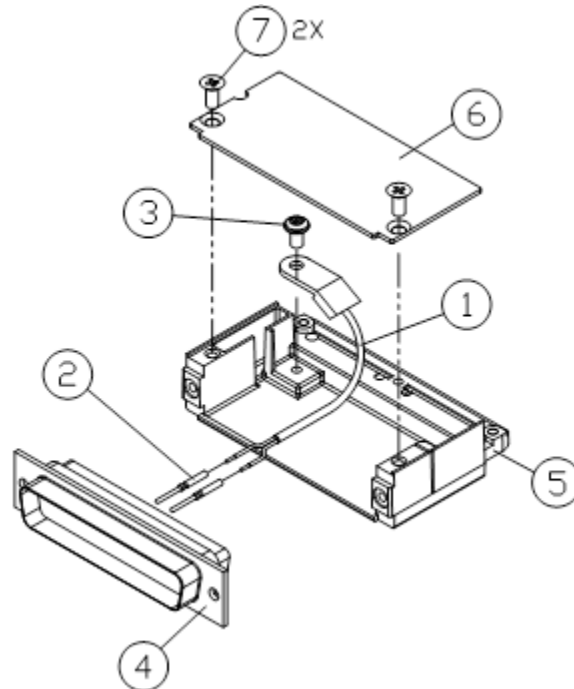

Figure 5-3. GEA Backshell Thermocouple
- d) Remove screws, item 7, and cover, item 6, from the backshell, item 5.
- a) Crimp pins, item 2, onto each of the thermocouple wires, item 1. Ensure that pre-stripped wire length is 1/8" before crimping.
- b) Insert newly crimped pins and wires into the appropriate connector housing location, item 4, as specified by the Kodiak Wiring Diagram.
- c) Place thermocouple body, item 1, onto the backshell boss, item 5. Place the thermocouple as shown in Figure 5-3 so the wires exit towards the bottom of the backshell.
- d) Place thermocouple body, item 1, onto the backshell boss, item 5. Place the thermocouple as shown in Figure 5-3 so the wires exit towards the bottom of the backshell.
- e) Fasten cover, item 6, to backshell using screws, item 7.